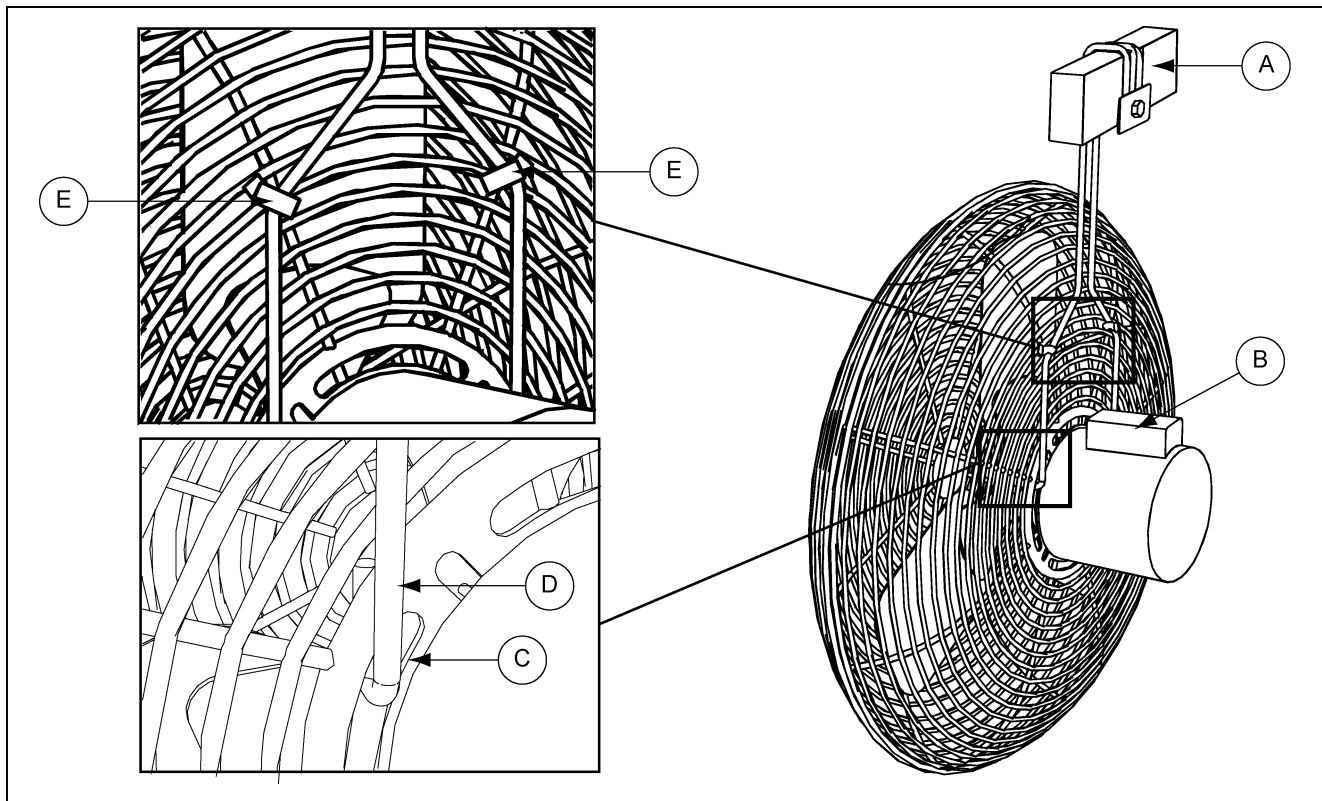

Figure 3A
1. Slide both hooks (D) between inner ring (C) of guard and motor. (See Figure 3A.)
2. Using two (2) plastic zip ties (E), attach hanger to grill guard. Wrap zip ties around main support rod of grill, grill ring and hanger. Trim zip ties when attached. (See Figure 3A.)
(See Figure 3A.)
1. *Overtop rafter* - Install fan, placing fan hanger overtop of rafter. Place fan mount washer on front side of loop end. Install lag screw/bolt (not included). *(See Figure 3A on Page 6.)*